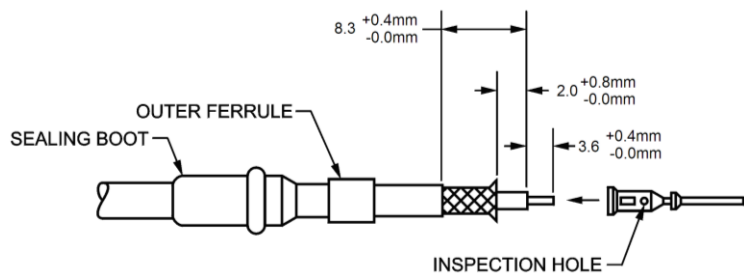

Figure 12-44 Stripping Dimensions, Sealing Boot, Ferrule and Contact Before Crimping the Contact
- a. Install the sealing boot and slide the outer ferrule onto cable prior to stripping the cable. (See Figure 12-44.)
- b. Strip cable jacket, braid, and dielectric to dimensions indicated. (See Figure 12-44.) All cuts are to be square and sharp. Do not nick braid, dielectric or centre conductor when cutting. If the wire ends of the centre conductor are frayed, twist them to normal lay.
- c. Flair the ends of the wire braid to facilitate insertion of inner ferrule of body assembly. (See Figure 12-44.) Do not comb out the braid.
- d. Place the stripped centre conductor into the contact until the cable dielectric butts against it. End of the wire must show through the inspection hole. (See Figure 12-44.)